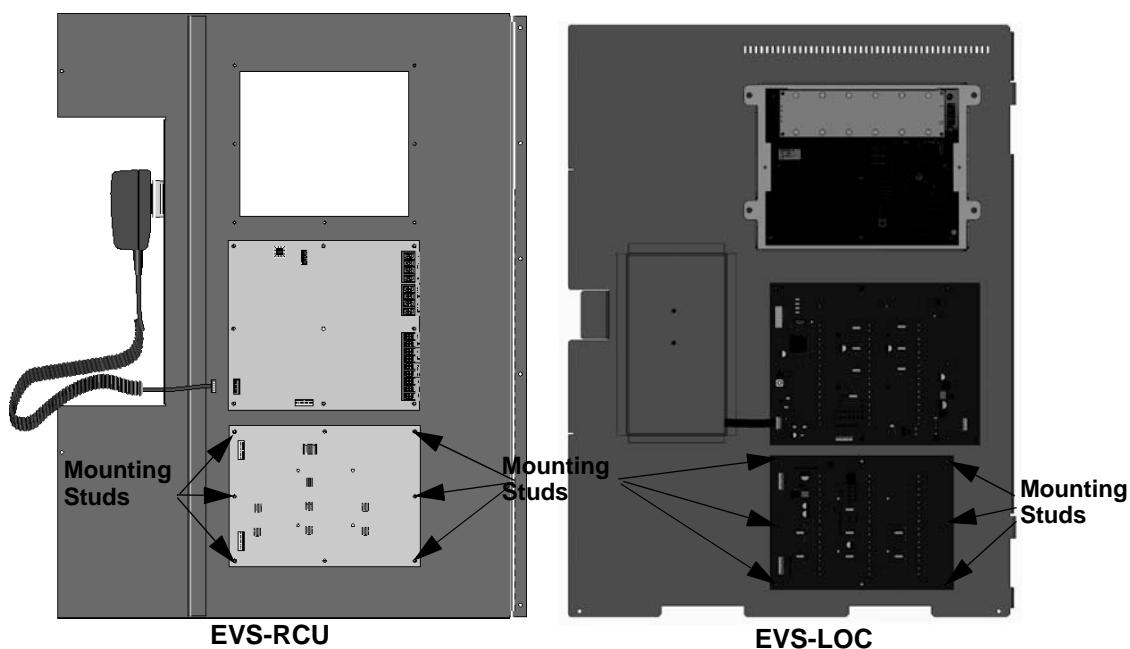

Figure 4-8 Mounting Location for the EVS-SW24
4. Install the EVS-SW24 on the six mounting studs located on the inside of the dead front panel. See Figure 4-8.